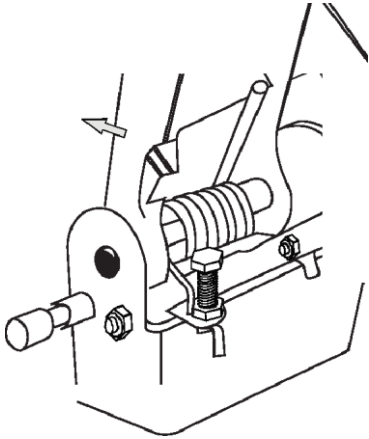

Fig 12
1. Lower the swing arm as far as it will go. (Fig 12)